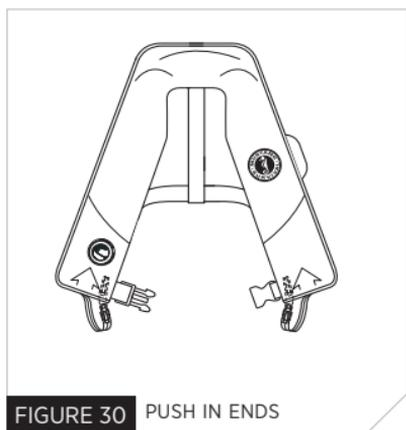

FIGURE 30 PUSH IN ENDS
9. Use a finger to push the zipper ends into the openings at the bottom of the packed PFD (Fig. 30).